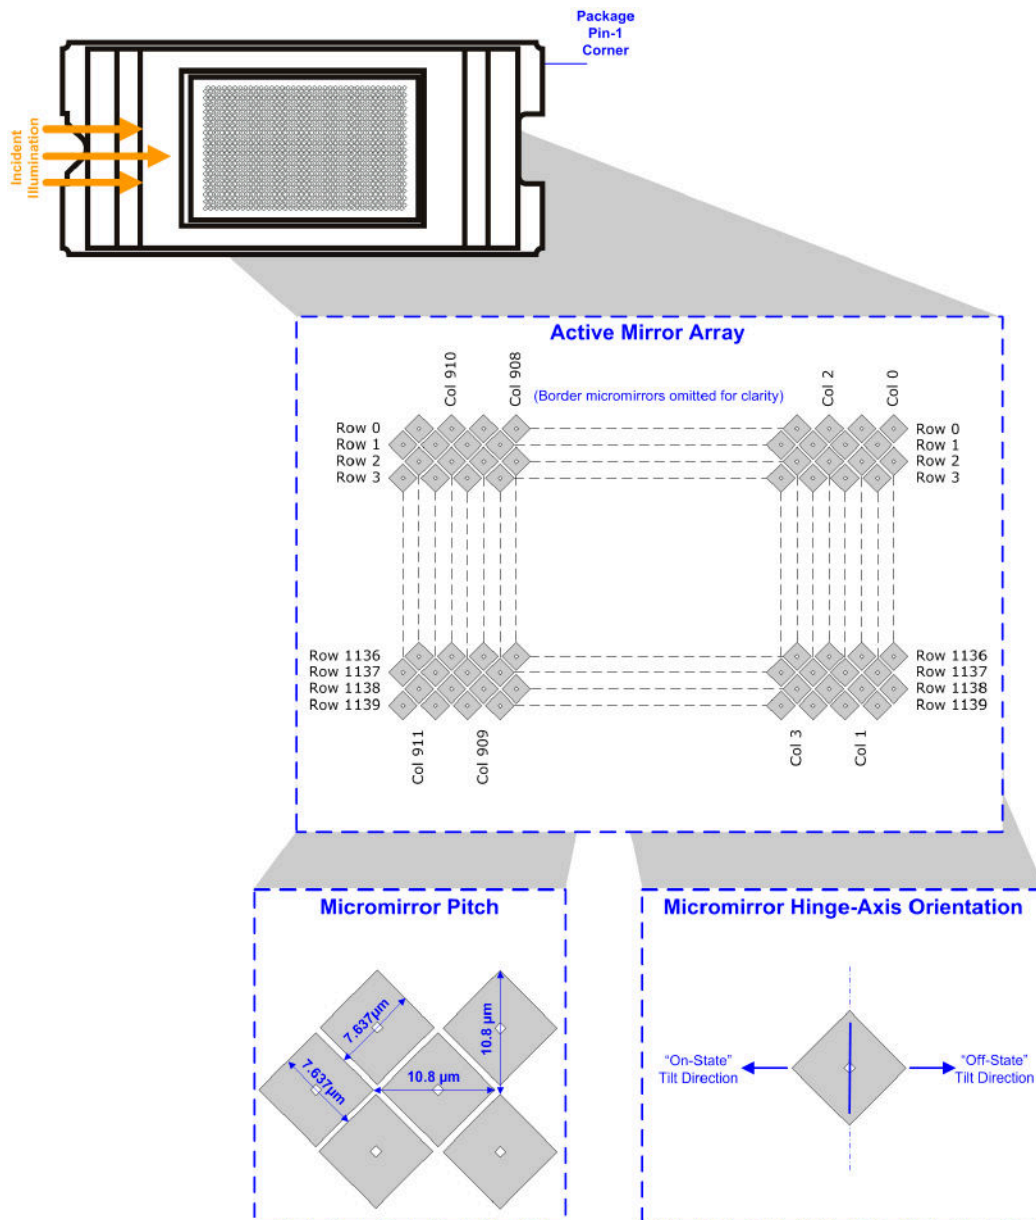
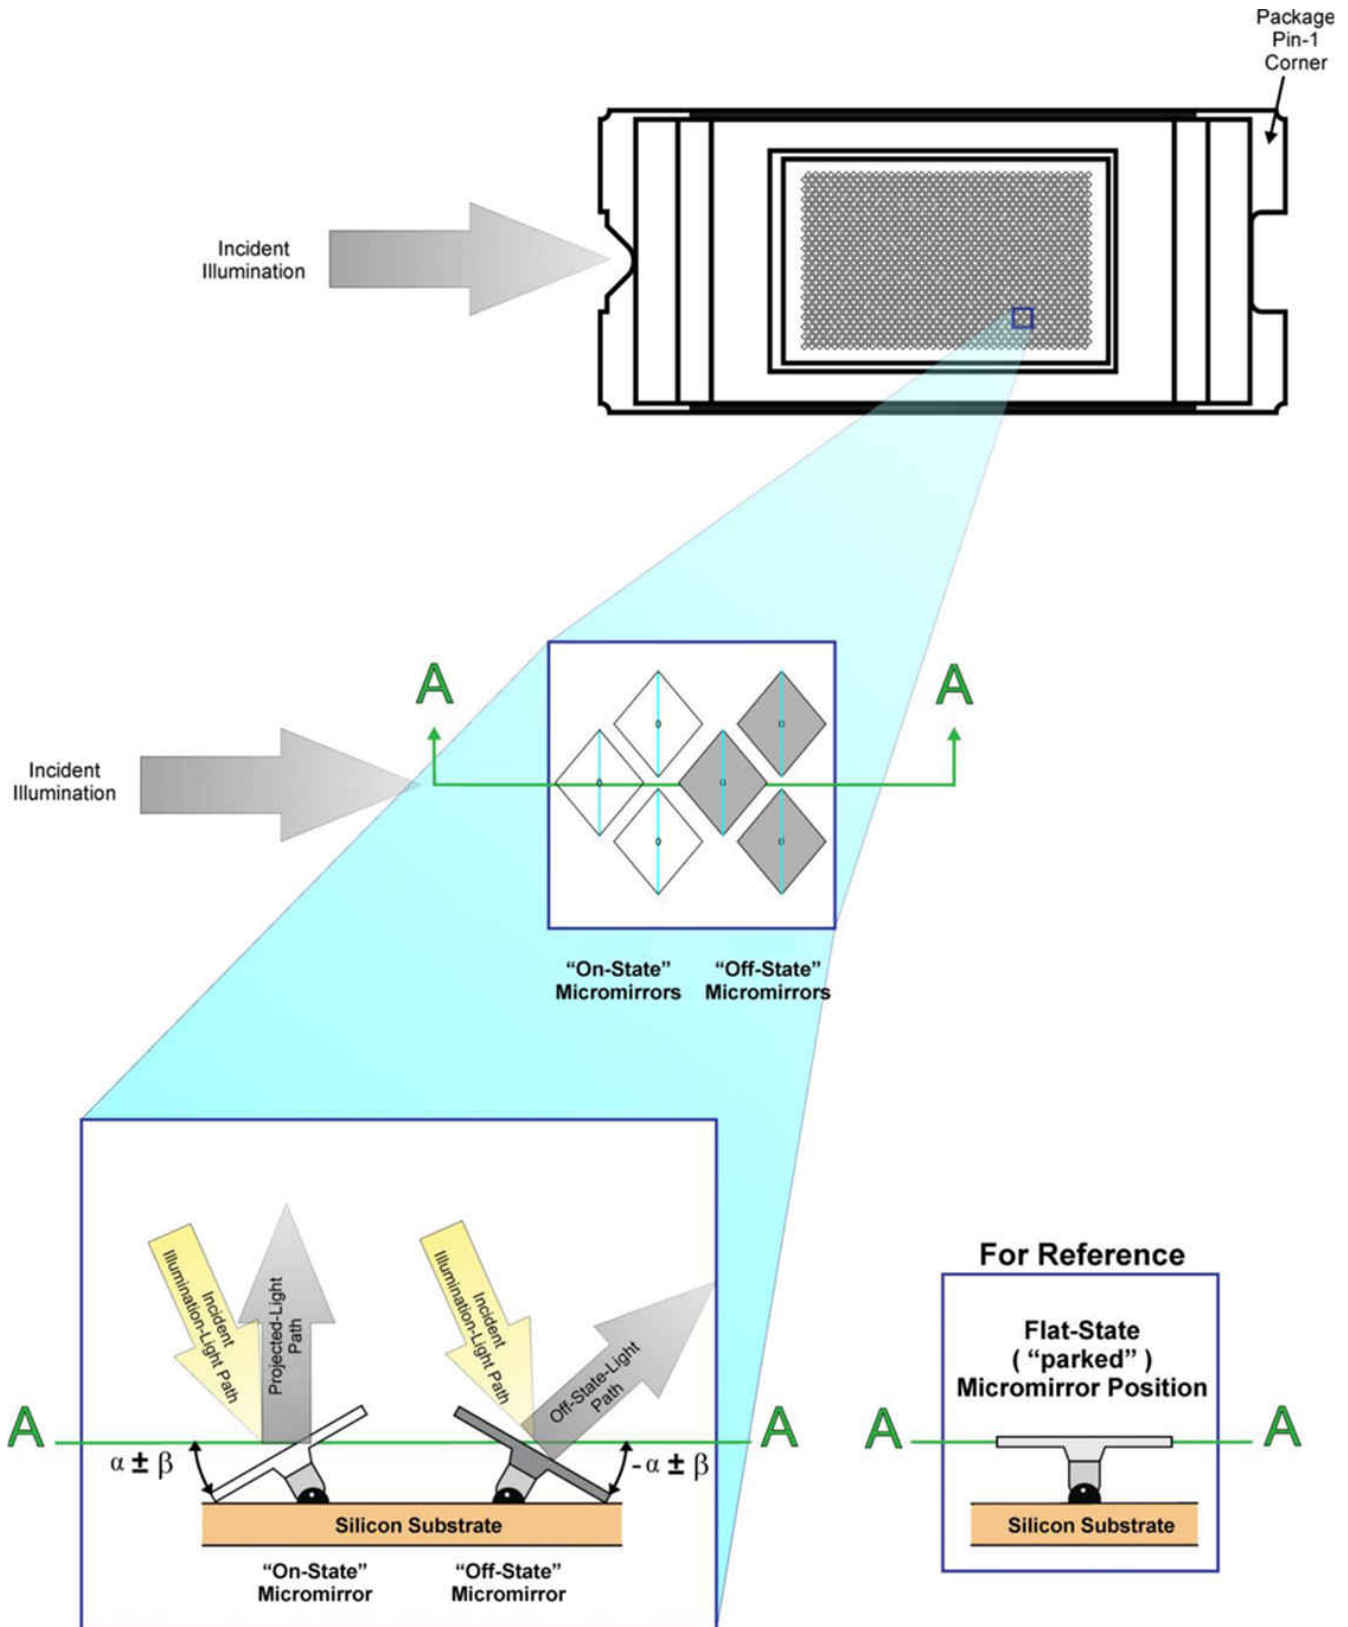

图 8-1. Micromirror Array, Pitch, and Hinge-Axis Orientation
图 8-2. Micromirror Landed Positions and Light Paths
- (1) The mirrors that form the array border are hard-wired to tilt in the - 12° (“Off”) direction once power is applied to the DMD (see 图 8-1 and 图 8-2).
- (2) See 图 8-1.
- (1) Measured relative to the plane formed by the overall micromirror array.
- (2) Micromirror crossover time is primarily a function of the natural response time of the micromirrors.
- (3) *Parking* the micromirror array returns all of the micromirrors to a relatively flat (0°) state (as measured relative to the plane formed by the overall micromirror array).
- (4) When the micromirror array is *parked*, the tilt angle of each individual micromirror is uncontrolled.
- (5) Additional variation exists between the micromirror array and the package datums.
- (6) When the micromirror array is *landed*, the tilt angle of each individual micromirror is dictated by the binary contents of the CMOS memory cell associated with each individual micromirror. A binary value of 1 results in a micromirror *landing* in an nominal angular position of +12°. A binary value of 0 results in a micromirror *landing* in an nominal angular position of - 12°.
- (7) Represents the *landed* tilt angle variation relative to the nominal *landed* tilt angle
- (8) Represents the variation that can occur between any two individual micromirrors, located on the same device or located on different devices.
- (9) For some applications, it is critical to account for the micromirror tilt angle variation in the overall system optical design. With some system optical designs, the micromirror tilt angle variation within a device may result in perceivable non-uniformities in the light field reflected from the micromirror array. With some system optical designs, the micromirror tilt angle variation between devices may result in colorimetry variations or system contrast variations.
- (10) See 图 8-2.
- (11) Non-operating micromirror is defined as a micromirror that is unable to transition nominally from the - 12° position to +12° or vice versa.
- (12) Performance as measured at the start of life.
- (13) Measured relative to the package datums B and C, shown in the Package Mechanical Data section in # 13.
- (14) The nominal DMD total optical efficiency results from the following four components:
- (15) The DMD diffraction efficiency and total optical efficiency observed in a specific application depends on numerous application-specific design variables, such as:
Optically, the DLP4500 device consists of 1039680 highly reflective, digitally switchable, micrometer-sized mirrors (micromirrors) organized in a two-dimensional array. The micromirror array consists of 912 micromirror columns by 1140 micromirror rows in diamond pixel configuration (图 8-1). Due to the diamond pixel configuration, the columns of each odd row are offset by half a pixel from the columns of the even row.